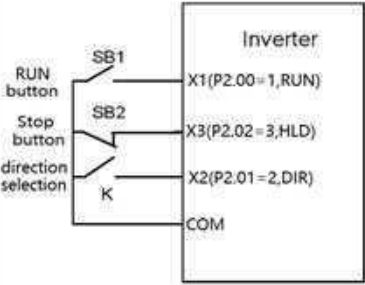

Figure 5-3-4 Three-wire control mode 2
**3:Three-wire control mode 2.**In this mode,terminal function 3 is an enable terminal.The running command is generated by FWD rising edge,and the REV function determines the direction of run.When the signal of the three wire control function 3 is disconnected,the inverter stops running.For example,as shown in Figure 5-3-4,P2.11=3,P2.00(X1)=1(FWD),P2.01(X2)=2(REV),P2.02(X3)=3.